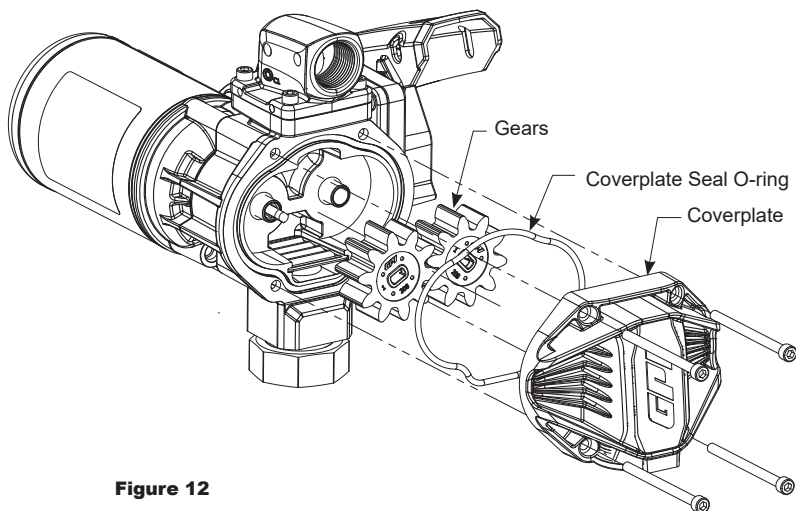

Figure 12
2. Using 5mm hex wrench, remove the gear coverplate and O-ring (see Figure 12).